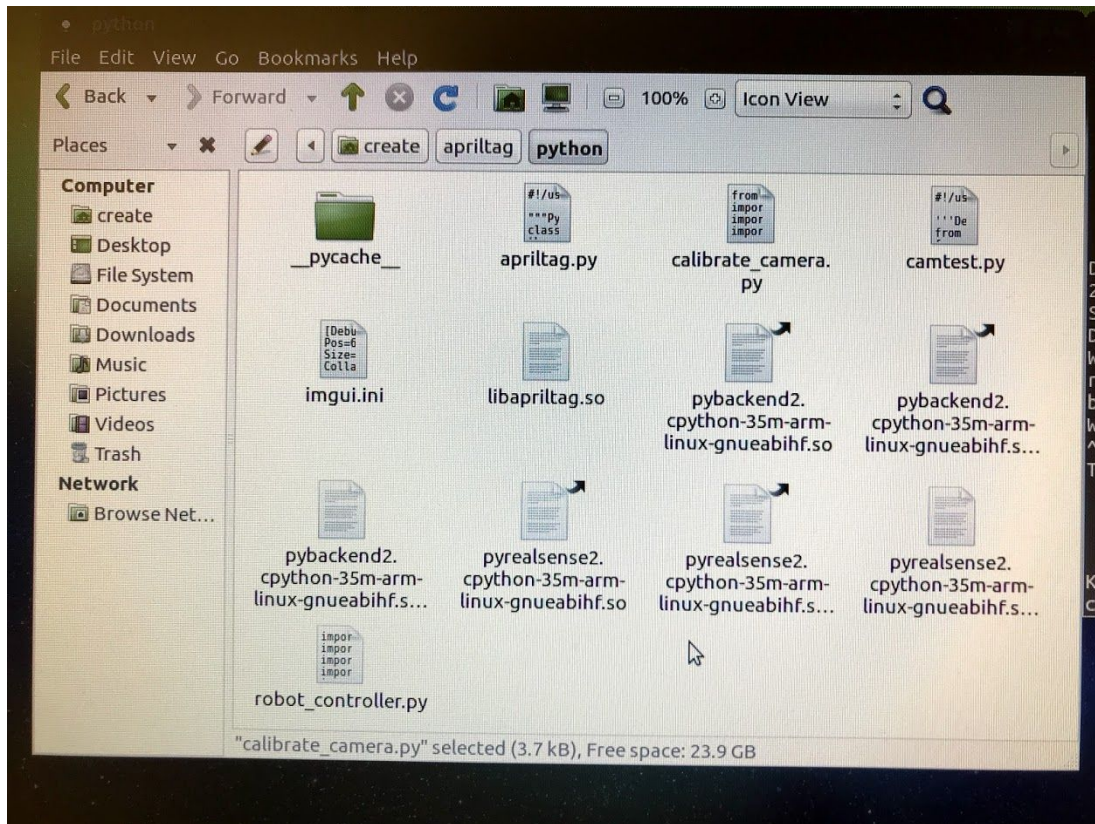

Figure 8: All Files in ~/apriltag/python Directory
- b. Move the `.so` files from the `apriltag` build folder to the `python` folder containing `robot_controller.py`. Finally, the folder with `robot_controller.py` code should contain all of the files in Figure 8 below: